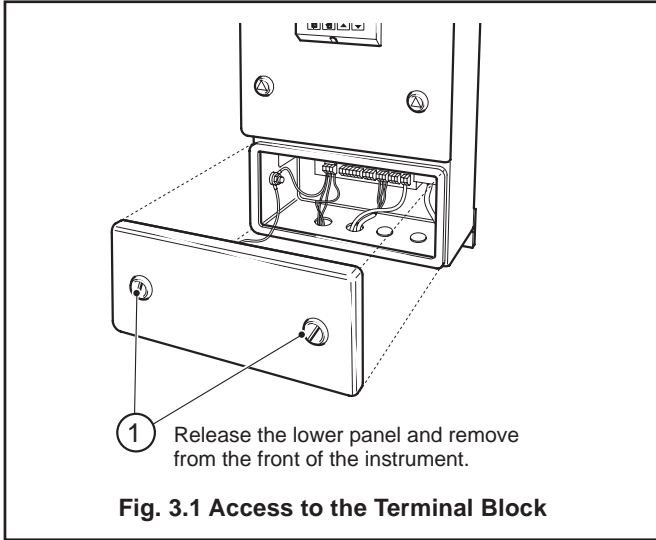

Fig. 3.1 Access to the Terminal Block
3.1 Access to Terminals – Fig. 3.1
Note. Refer to Fig. 3.1 for Access to Terminals.